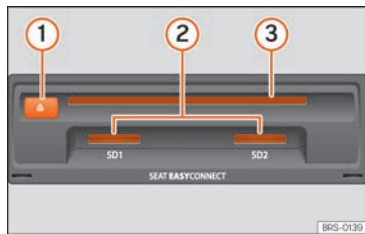

Fig. 194 Slots for data storage devices in the glove compartment.
- Push the CD into the slot »» Fig. 194 ③ to the point where it is drawn in automatically.
Insert the compatible memory card, bevelled edge first and with the label face up (contacts face down), into slot »» Fig. 194 ② or »» Fig. 171 ⑨, until properly inserted.